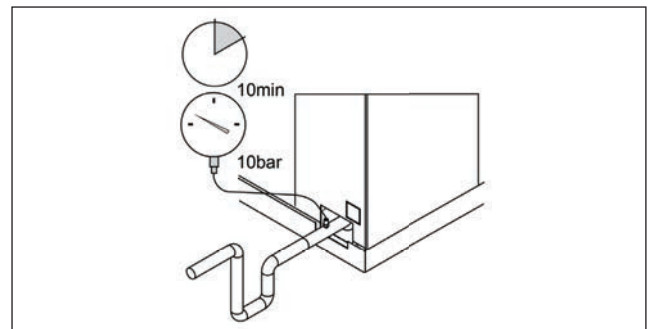

Fig. 13.1
1. Pressurize the coil as well as expansion valve assembly and suction connection to 10 bar with dry nitrogen or other suitable gas. Leave the coil pressurized for at least 10 minutes (Fig. 13.1).